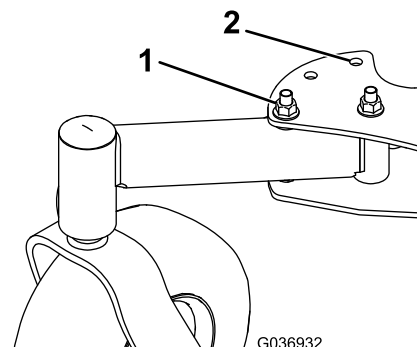

Figure 1
6. Remove the outer bolts and nuts securing the caster wheels in place (Figure 1).
7. Rotate the caster wheels to the rear position and secure them with the previously removed bolts and nuts (Figure 1).